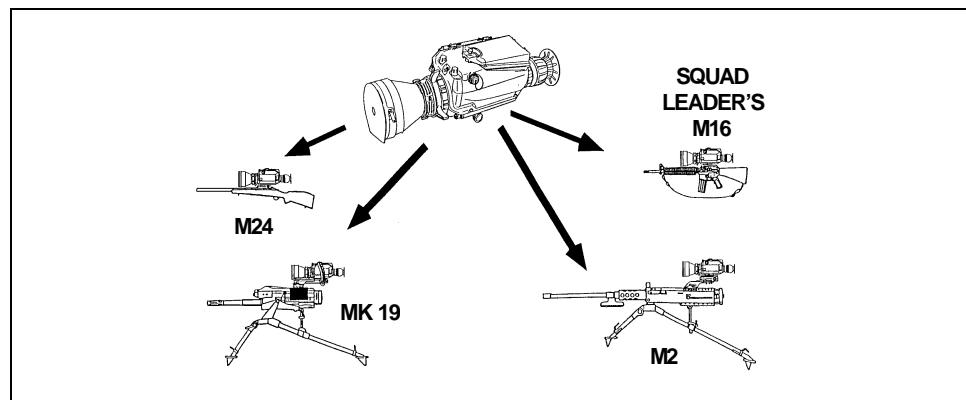

Figure G-2. Weapons that use the AN/PAS-13 (V3) HWTS.
b. **Compatibility.** The heavy weapon thermal sight fits the weapons shown in Figure G-2:
- (1) If you have an AN/PAS-13 (V3), see TM 11-5855-302-12&P.
- (2) If you have an AN/PAS-13 (OMNI), see TM 11-5855-312-10.